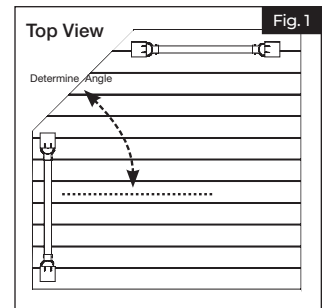

Fig. 1
- a. Place bottom rail across post opening leaving equivalent spacing from the last baluster and post on each end (Fig 1).
- Assemble your rail section by inserting balusters/spindles into rails (Fig 1).
After posts have been installed, determine angle of railing (Fig 1).
- Coloque el panel de barandillas a lo largo de la apertura y ajuste para garantizar que la separación entre los balaustres sea equitativa en ambos extremos. (Fig 1).